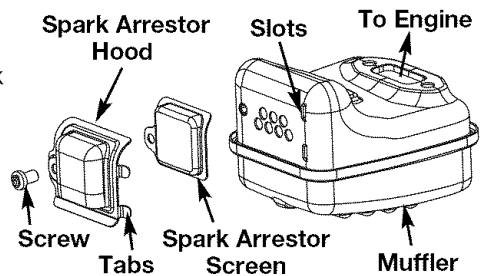

Fig. 22
2. Locate the muffler, **but do not remove it**. Find the screw on the bottom of the muffler (Fig. 22). This screw holds the Spark Arrestor Hood Assembly and the spark arrestor screen to the bottom of the muffler. Remove this screw using either a Torx T20 or flat blade screwdriver.
- Place the spark arrestor plate on top of the spark arrestor screen with the raised side up and the opening facing toward the engine (Fig. 22).
- Place the spark arrestor hood on top of the spark arrestor plate with the “raised” side up and the opening facing AWAY from the engine (Fig. 22). Verify that the exhaust will be directed AWAY from the engine.